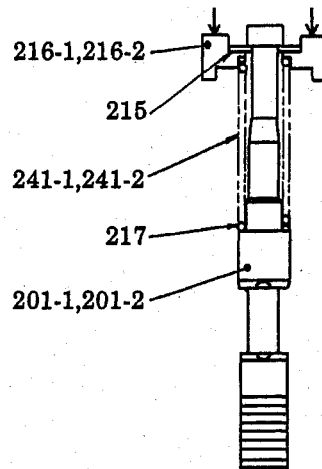
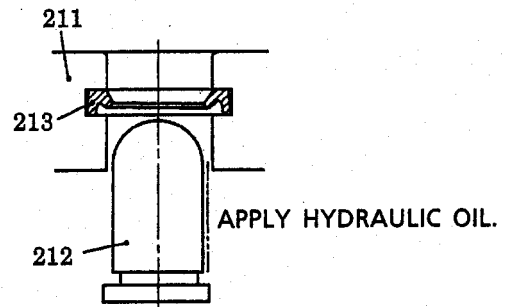

Fig. 9 Spool assy
Fig. 11 Inserting push rod
11) In removing the spool assy, erect the bottom end of spool (201-1, 201-2) upright on a plain work bench, hang spring seat (216-1, 216-2) under it and take off the two semi-circular washers 1 (215) by the tip of a small screwdriver (within 6mm). (See Fig.9.)
- 6) Install washer 2 (217), spring (241-1, 241-2) and spring seat (216-1, 216-2) into spool (201-1, 201-2) in that order. (See Fig. 9.)
- 7) Erect the bottom end of spool (201-1, 201-2) upright on a plain work bench, push down spring seat (216-1, 216-2) within 6mm (0.24in) and insert two semi-circular washers 1 (215) into the top of spring seat (216-1, 216-2) so one washer not lie upon another.
- 8) Fix spring (221-1, 221-2) into valve body (101) so it was located before removal.
- 9) Place the reducing valve assy into valve body (101).
- 10) Place seal (213) in plug (211) so its lip is oriented according to Fig. 11. Then insert push rod (212) with spring seat (216-1, 216-2) into plug (211). Coat the surface of push rod (212) with hydraulic oil. (See Fig. 11.)
- 11) Fit O ring (214) to plug (211).
- 12) Fix the plug assy into valve body (101). (It stops because of the sliding resistance of the O ring.)
- 13) Attach plate (151) to valve body (101).
- 14) Fasten joint (301) against valve body (101) to a specified torque.